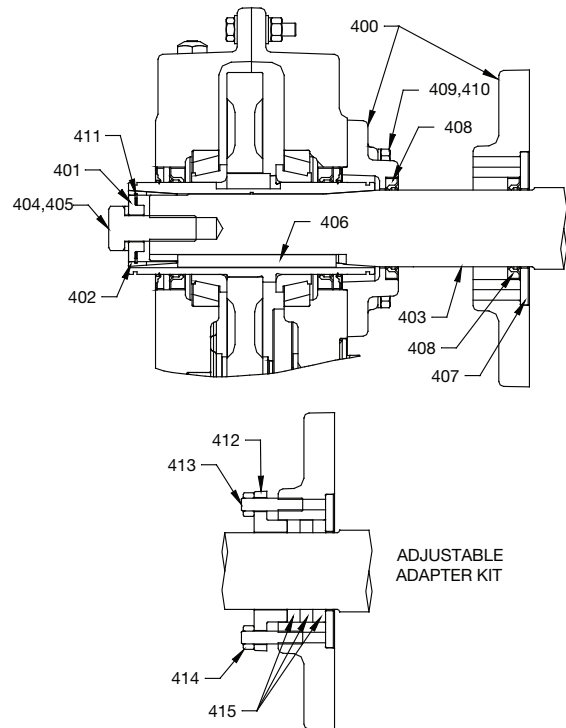

Figure 1 - Screw Conveyor Adapter Assembly
1. Install seals (408) into adapter housing as shown in Figure 1. If the optional packing adapter is to be used, install only one seal in the small end of the adapter. Use extreme care when installing seals to avoid damage to the seals. Press or tap seals into place by applying pressure only on the outer edge of the seal. Make sure seals are install evenly and are not tilted.
2. If using the optional packing adapter, install the two studs (413), retaining ring (412), and two nuts (414). Thread the nuts onto the studs about 4-5 threads. Install the three braided type seals (415) in a circular direction into the adapter cavity. Shoulder the braided seals against the adjustable retaining ring (412). To aid in installation of the driveshaft in step 7, the braided seals can be flattened out slightly with a soft hammer prior to installation. When installing the braided seals offset the joints from each other.
3. Lightly tap the large washer (407) into the counterbore on the large end of the adapter to seal the braided material installed in step 2 or the seal installed in step 1.
6. Place four adapter screws (409) and lock washers (410) through the adapter and thread into the reducer. Tighten the four cap screws (409) to the torque specified in Table 1.
8. Install the retaining ring (411) into the screw conveyor wedge (402). Making sure the driveshaft is fully seated into the reducer, slide the wedge onto driveshaft.
9. Install keeper plate (401), driveshaft cap screw (404), and lockwasher (405). Torque to specifications in Table 1.